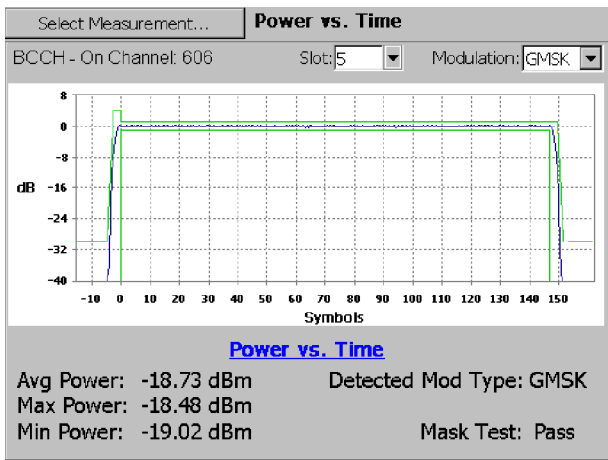

Figure 3-39: GSM/EDGE Power vs. Time measurement
4. Tap **Power vs. Time**. See Figure 3-39.